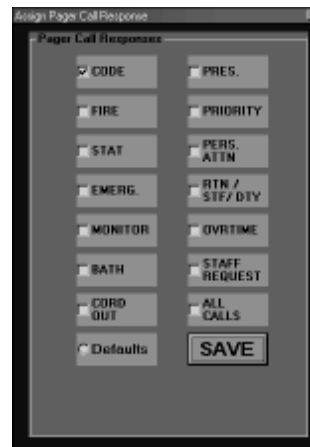

Figure 32: Assign Pager Call Response
11. A new screen will appear to allow the custom call selection. Refer to *Figure 32* for the ASSIGN PAGER CALL RESPONSE menu that will appear.